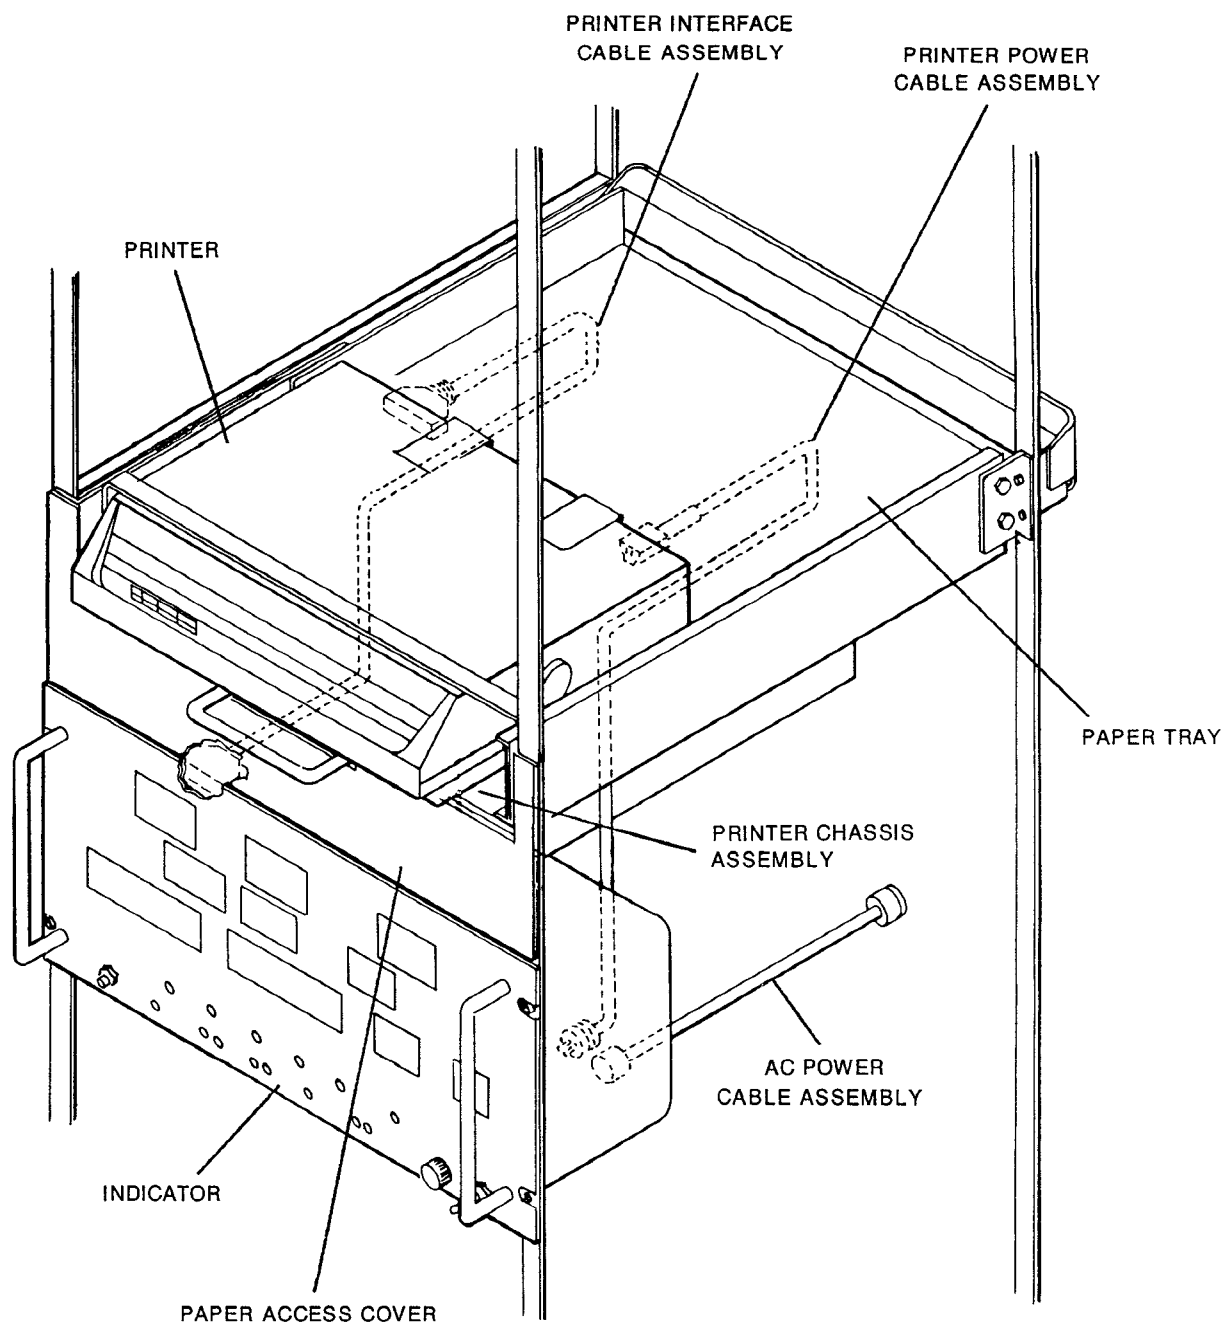

FIGURE 1-7. Wind Direction and Speed Recorder RO-588/FMQ-13(V)
**1-2.3 Recorder.** (See FIGURES 1-7 and 1-8.) The recorder (FIGURE 1-7) is comprised of an indicator (dash 2 version), printer with slide mounting shelf, paper tray, paper access cover, AC power cable assembly, printer power cable assembly, and printer interface cable assembly. The printer shelf is equipped with captive hardware for slide mounting in a standard 19-inch equipment rack. Once each minute, the printer provides a hard copy printout of all weather parameters displayed on the 7-segment displays plus time/date information, peak wind values, standard deviation, and status. All information for each minute's recording will be printed out on the same line. The order of presentation of the data will be as follows: date-time group; wind direction (DIR); wind speed (SPD); gusts (GST); direction variability (DIR-VAR); gust spread (GSP); 10-minute peak-wind direction, speed, and time of occurrence; latest hour peak-wind direction, speed, and time occurrence; latest 24-hour peak-wind direction, speed, and time of occurrence; standard deviation; status; and active sensor identification. Header information is provided on the printout to clearly identify all recorded information. All time is based on a 24-hour clock and is displayed to the latest minute. Wind data to be recorded will be from the sensor specified as the active sensor on the master indicator. FIGURE 1-8 is a typical printout of weather information.